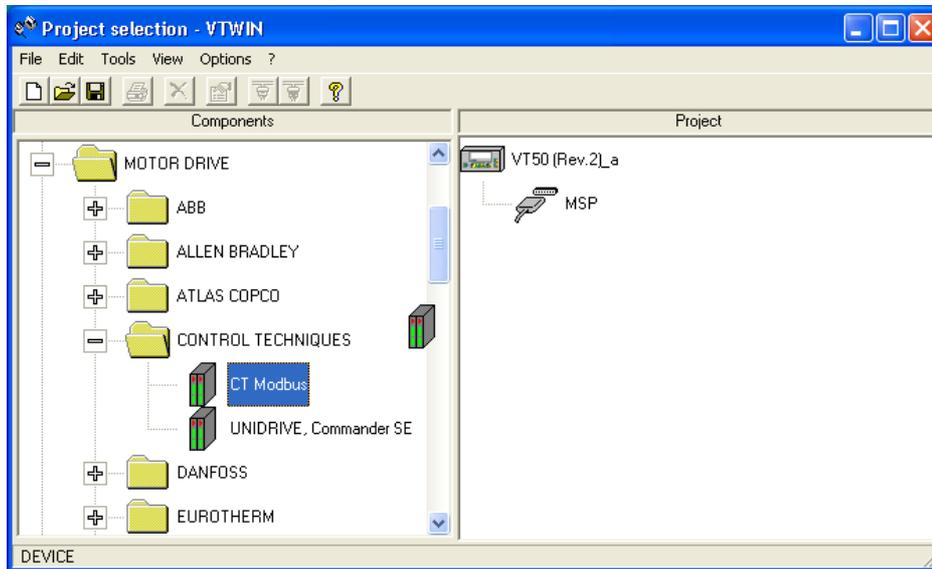

Fig.4.
3.4 Using the mouse, drag the CT Modbus icon up to the MSP port. When the mouse button is released, the CT Modbus protocol will be attached to the MSP port, hanging underneath. See Figs. 4 and 5.